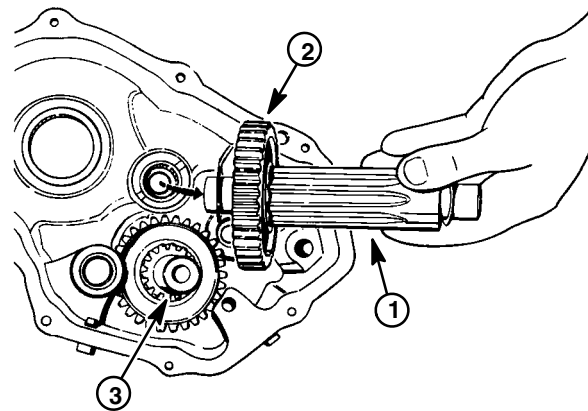

Figure 14
14. Remove output shaft (item 44) and output gear (item 43) from cover (Fig. 14). Locate and retrieve thrust washer (item 41) from both ends of shaft.
15. Remove brake shaft (item 23) and idler gear (item 35) from cover. Locate and retrieve thrust washer (item 73).
16. Remove input shaft (item 39) and spur gear (item 40) from case by tapping end of shaft with soft-faced hammer. Locate and retrieve thrust washer (item 74).